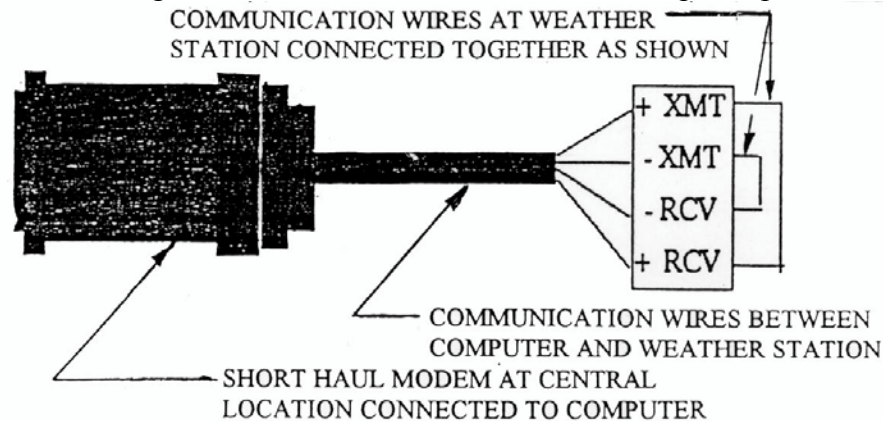

FIGURE 26 - TEST OF COMMUNICATION WIRE
- Jumper the output terminals of the **RAD SRM-5A Short Haul Modem**, located at the computer, as shown in **FIGURE 26** below.
- Using a working (“Good”) RAD SRM-5A Short Haul Modem connect the communication wires together at the weather station end as shown in **FIGURE 26** below.
- At the Weather Station, disconnect the communication wires from the MSP-1 pipe surge arrestors and tie the wires together as shown in FIGURE 26 below.
- Assuming you have connected the communication wires correctly at the weather station end, as shown in FIGURE 26 below, what you type at the computer will be echoed back to the computer screen. Testing in this way will verify that the communication wiring is “Good”. If you do not see the characters on the screen, that you have typed, then you know that there is a problem with the communication wiring.
- Assuming you have connected the output terminals of the modem as shown in FIGURE 26, what you type will be echoed back to the computer screen. Testing the Short Haul Modem in this way will verify that it is working properly. If you do not see the characters, that you type, on the screen then the Short Haul Modem has a problem and needs to be replaced.